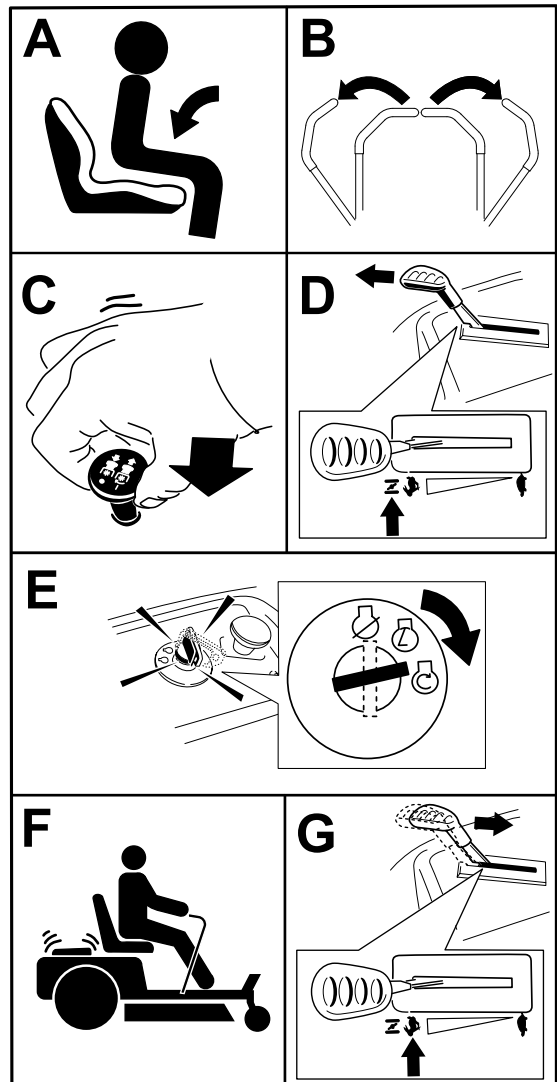

Figure 23
**Note:** It may be necessary to hold the lever against the stop, in the choke position, while trying to start the engine (Figure 23).